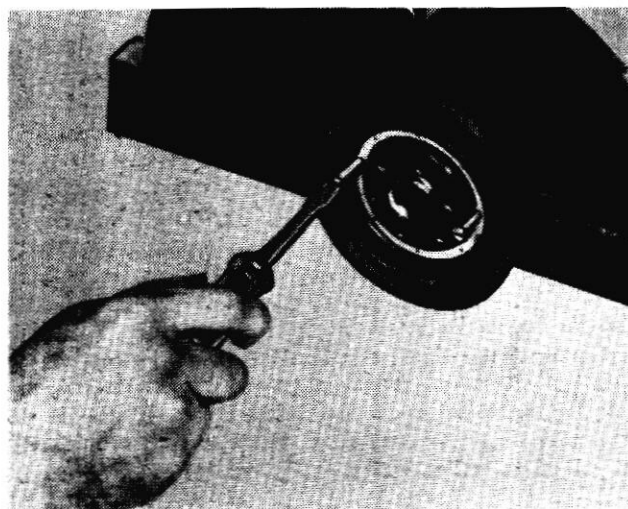

FIG. 29 Removing Crankshaft Rear Oil Seal—2.8L V-6 Engine
3. Use an awl to punch two holes in the crankshaft rear oil seal. Punch the holes on opposite sides of the crankshaft and just above the bearing cap to cylinder block split line. Install a sheet metal screw in each hole (Fig. 29). Use two large screwdrivers or small pry bars and pry against both screws at the same time to remove the crankshaft rear oil seal. It may be necessary to place small blocks of wood against the cylinder block to provide a fulcrum point for the pry bars. **Use caution throughout this procedure to avoid scratching or otherwise damaging the crankshaft oil seal surface.**